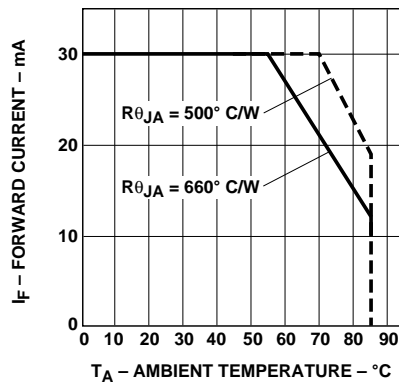

Figure 5. Maximum Forward Current vs. Ambient Temperature for 3 mm Lamps. Derating Based on $T_{JMAX} = 110^\circ\text{C}$.
2. Derate linearly as shown in Figure 5.